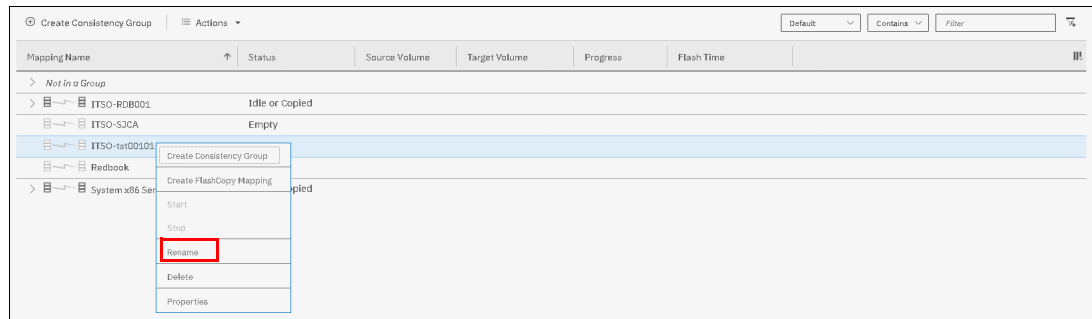

Figure 10-99 Rename Consistency Group
2. In the panel, select the Consistency Group that you want to rename. Then, select **Actions** → **Rename**, as shown in Figure 10-99.